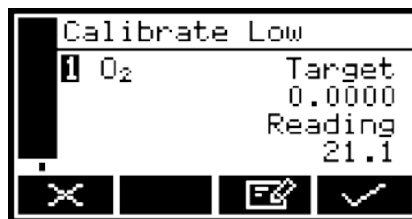

Figure 21 - The Calibrate target value screen
5. Press the  soft key. The Calibrate target value screen will then be shown (see Figure 21), identifying the target value and the current reading.
Cross-interference compensation is disabled during calibration, and is not applied to the values shown in Figure 21. All other outputs (that is, serial or milliamp outputs) remain compensated.